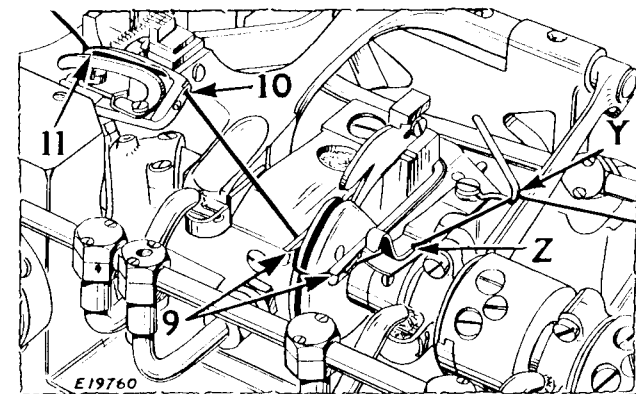

Fig. 6. Threading Looper—Front View
down through the hole V, down through the thread guide W, that stands up from the base of the machine. Pass the thread through the slot X, and into the wire guide Y at the back end of the nipper plate and into the slot Z in the nipper plate. Raise the ends of the fork, pass the thread through the slots 9 at the front ends of the fork, then push the fork down. Pass the thread through the hole 10, Fig. 6, in the heel of the looper and then, away from the operator, through the hole 11, near the point of the looper. Draw about two inches of thread through the eye of the looper with which to commence sewing.
**NOTE:** It is not necessary to remove the work plate or the throat plate for looper threading. They are removed in Fig. 6, above, for purposes of illustration only.